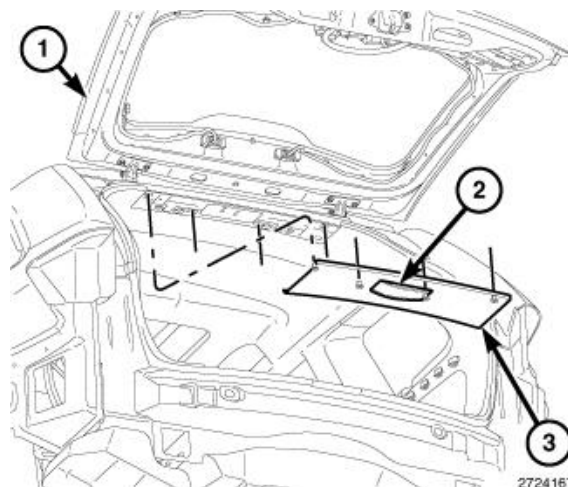

Figure 17 – Upper Liftgate Trim Panel
31. Using a trim stick, disengage the retaining clips that secure the upper liftgate trim panel to the liftgate opening and remove the trim panel (3) (Figure 17).
32. If equipped, disconnect the cargo lamp electrical connector (2) (Figure 17).